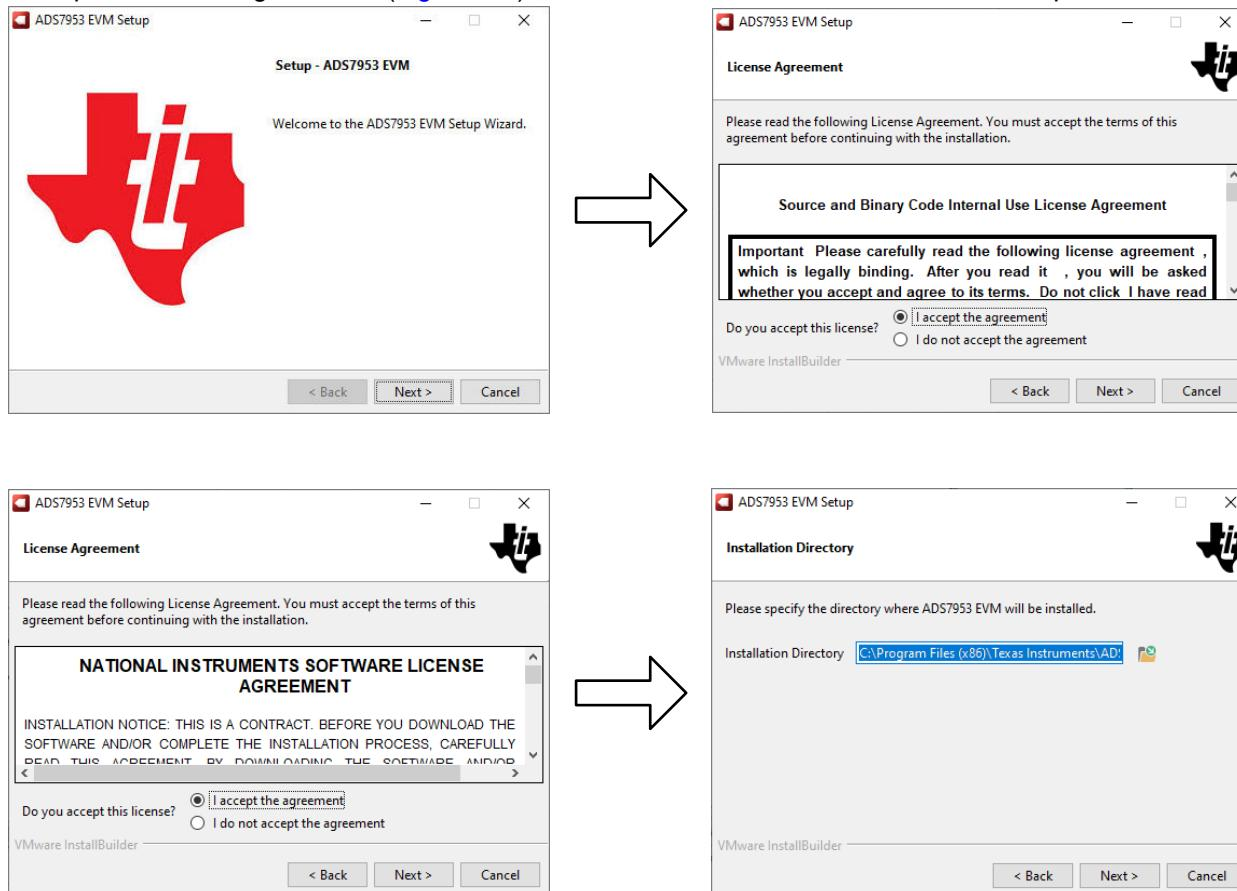

Figure 5-2. Software Installation Prompts
2. Accept the license agreements (Figure 5-2) and follow the on-screen instructions to complete the installation.